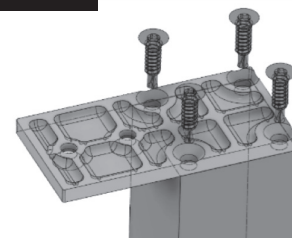

FIGURE 2
Install the top end plate (UARC-KL-WECE-U-9387-XX) or corner plate (UARC-KL-WCCF-U-93897-XX) with provided thread cutting screws into the (4) boss channels on the inside of the post (FIGURE 2). Ensure all (4) screws are snug.
Next, install the top straight-line connector plate (UARC-LP-U-XX) with provided (4) thread cutting screws into the (4) boss channels on the inside of the post. Ensure all (4) Screws are snug. (Similar to FIGURE 2)